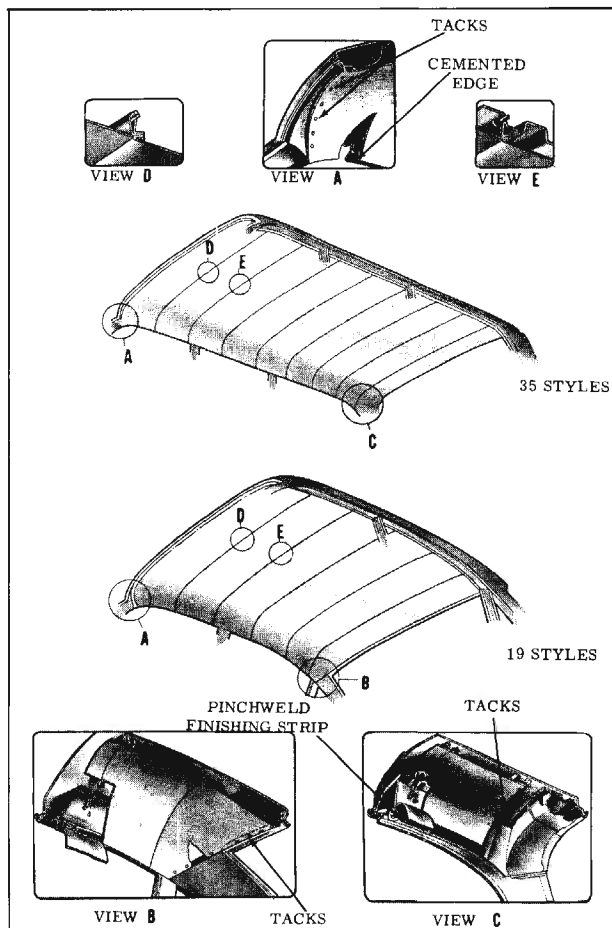
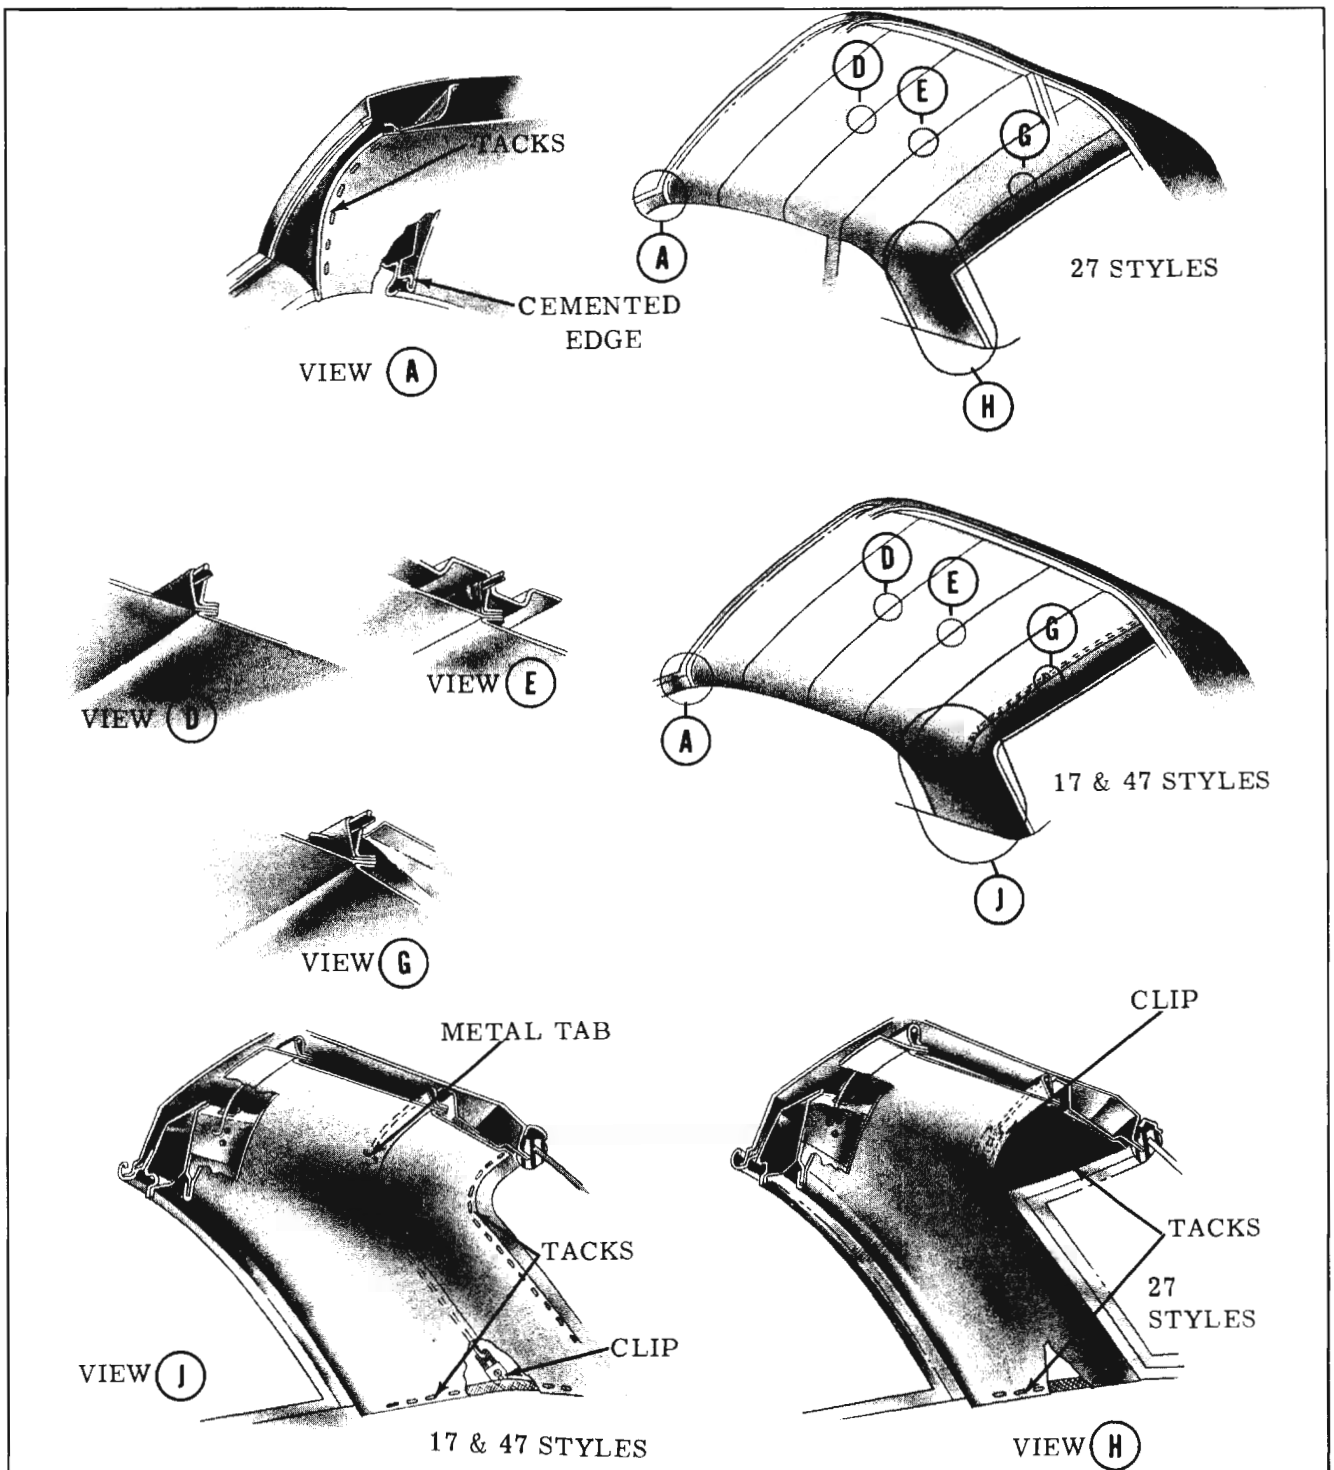

Fig. 16-327 Headlining Installation
Fig. 16-328 Headlining Installation
4. Carefully remove tacks or staples securing headlining at windshield opening (View A, Fig. 16-327 and Fig. 16-328).
headlining at back window or back body opening (Views J and H, Fig. 16-328 and Views B and C, Fig. 16-327) Then carefully detach cemented edges of headlining.
6. On "17", "27", and "47" styles, remove tacks or staples at quarter belt trim stick (Views J and H, Fig. 16-328).
8. At front roof bow, bend down metal tabs (View E, Fig. 16-327 and Fig. 16-328). On "27" styles, bend down metal tab supporting center of rear listing wire (View G, Fig. 16-328). On "17" and "47" styles, three metal tabs are used to support rear listing wire. (Views G and J, Fig. 16-328).
9. Disengage rear listing wire from clips in roof extension area on "17", "27", and "47" styles (Views J and H, Fig. 16-328).
3. Lift entire headlining assembly into body, then install rear listing wire. Make certain rear listing wire is properly inserted into clips at roof extension area on "17", "27", and "47" styles (View J and H, Fig. 16-328).
5. Install headlining listing wire over metal tabs on front roof bow. Bend up metal tabs so that listing wire is securely fastened to roof bow (View E, Fig. 16-327 and Fig. 16-328).
11. Using headlining inserting tool, permanently install edge of headlining around side roof rail pinchweld (View A, Fig. 16-327 and Fig. 16-328).